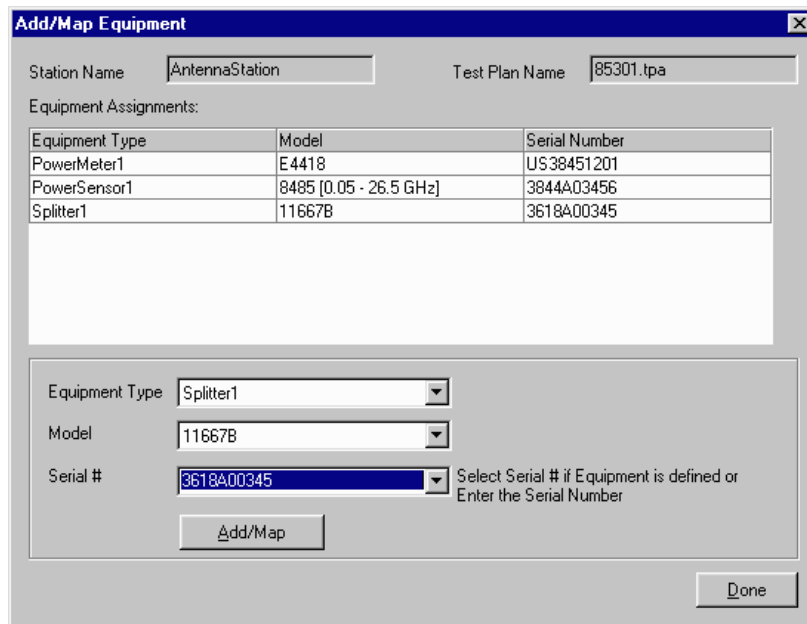

Figure 15 Add/Map Equipment
9. Select the first item in the **Equipment Type** drop down list. See Figure 15.
14. Repeat this procedure for each device, then click **Done** when finished. See Figure 15.